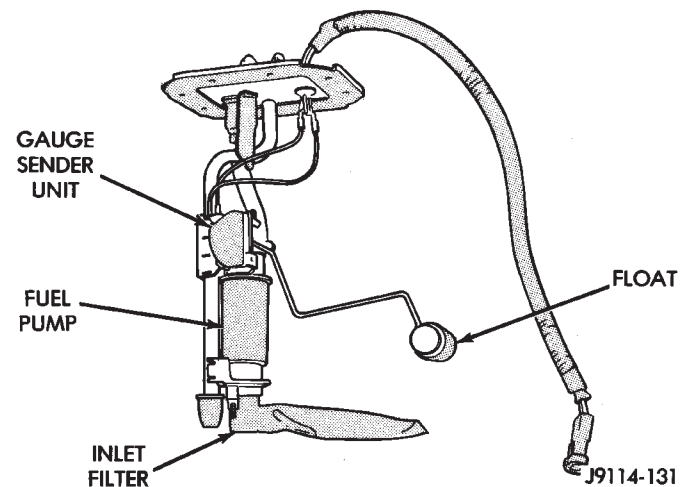

Fig. 5 Fuel Pump Module—YJ Models
- (1) Remove and discard fuel pump inlet filter (Fig. 5).